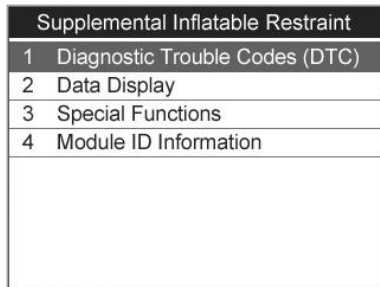

Figure 9.26
- 1) From the diagnostic function menu (Figure 9.26) use the **UP/DOWN** scroll button to select **Diagnostic Trouble Codes (DTC)** and press the **OK** button.
- 1) From the diagnostic function menu (*Figure 9.26*) use the **UP/DOWN** scroll button to select **Diagnostic Trouble Codes** and press the **OK** button.
- 1) From the diagnostic function menu (*Figure 9.26*) use the **UP/DOWN** scroll button to select **Data Display** and press the **OK** button.
- 1) From the diagnostic function menu (*Figure 9.26*) use the **UP/DOWN** scroll button to select **Special Functions** and press the **OK** button.
- 1) From the diagnostic function menu (*Figure 9.26*) use the **UP/DOWN** scroll button to select **Module ID Information** and press the **OK** button.